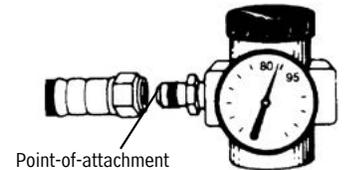

Figure 2
5. Adjust the air pressure at the point-of-attachment (**Figure 2**) to within the approved pressure range. See the Respirator Breathing Air Pressure table in the respirator user manual. If you do not have instructions, contact Bullard Customer Service at the address or phone numbers below. Manuals may be downloaded from the Resource page at www.bullard.com.